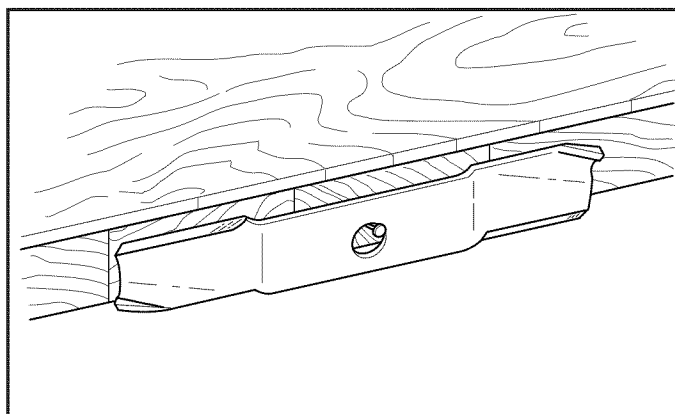

Figure 26
5. Balance the blade as shown in Figure 26. Place the center hole of the blade on a nail lubricated with a drop of oil. A balanced blade will remain level.